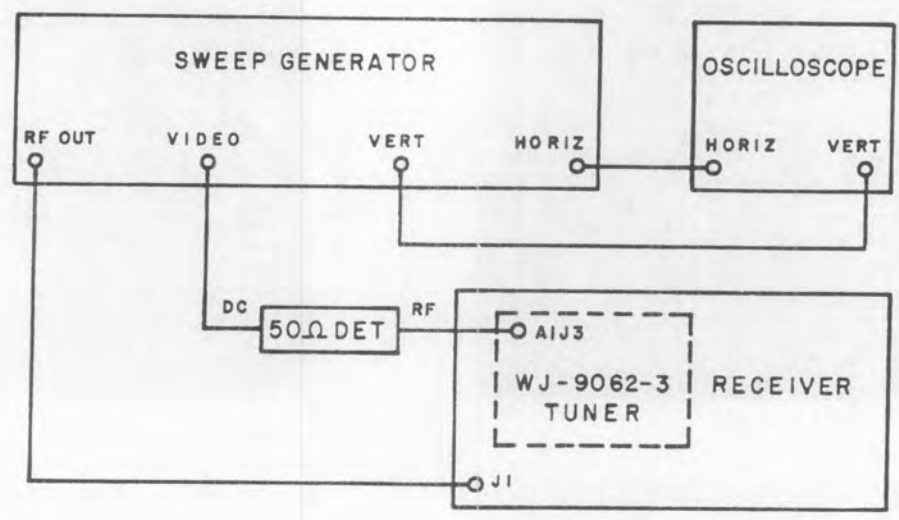

Figure 4-22. Test Setup, Interstage Network and Converter Alignment
- (1) Connect the equipment as shown in Figure 4-22.